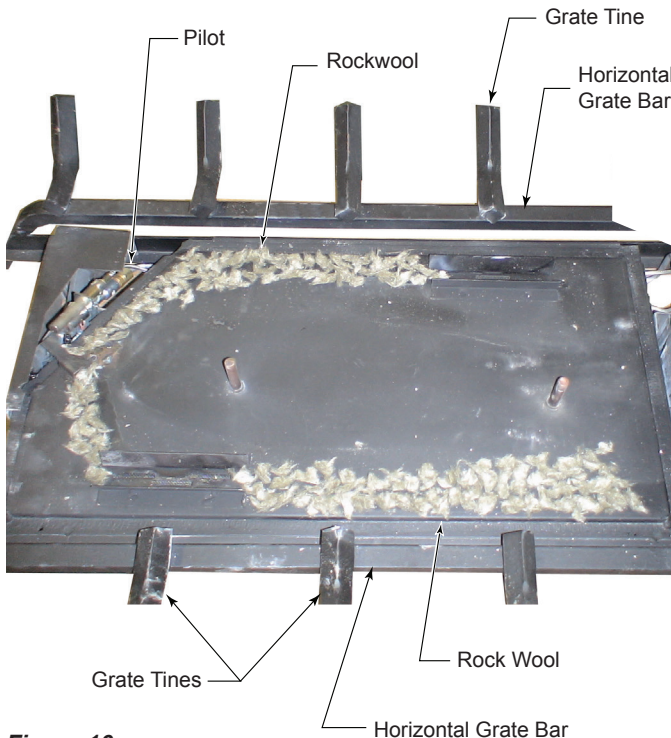

Figure 16 - Place Rock Wool
1. Place dime size pieces of rock wool evenly over small burner ports starting at pilot and down each side of burner. Avoid placing rock wool on slots on either side of burner between the air deflectors. *Figure 16.* Wash hands after placing rock wool. Skin irritation may occur.